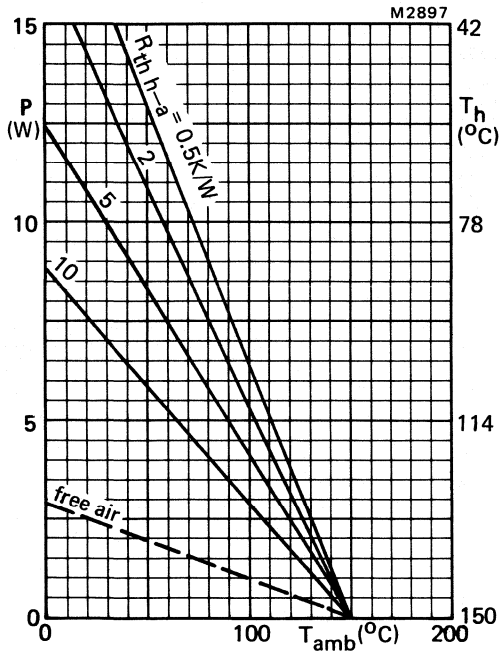
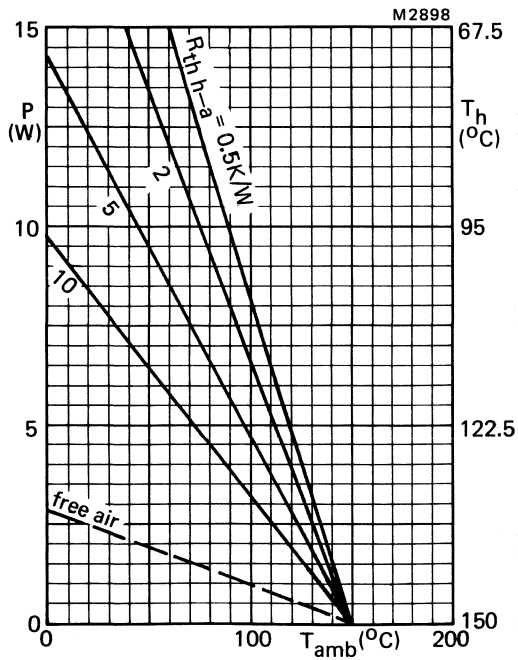

Fig.7 Heatsink rating; without heatsink compound.
Fig.8 Heatsink rating; with heatsink compound.
Having determined the power (P), use Fig.7 (if heatsink compound is not being used) or Fig.8 (if heatsink compound is being used) to determine the heatsink size and corresponding maximum ambient and heatsink temperatures.